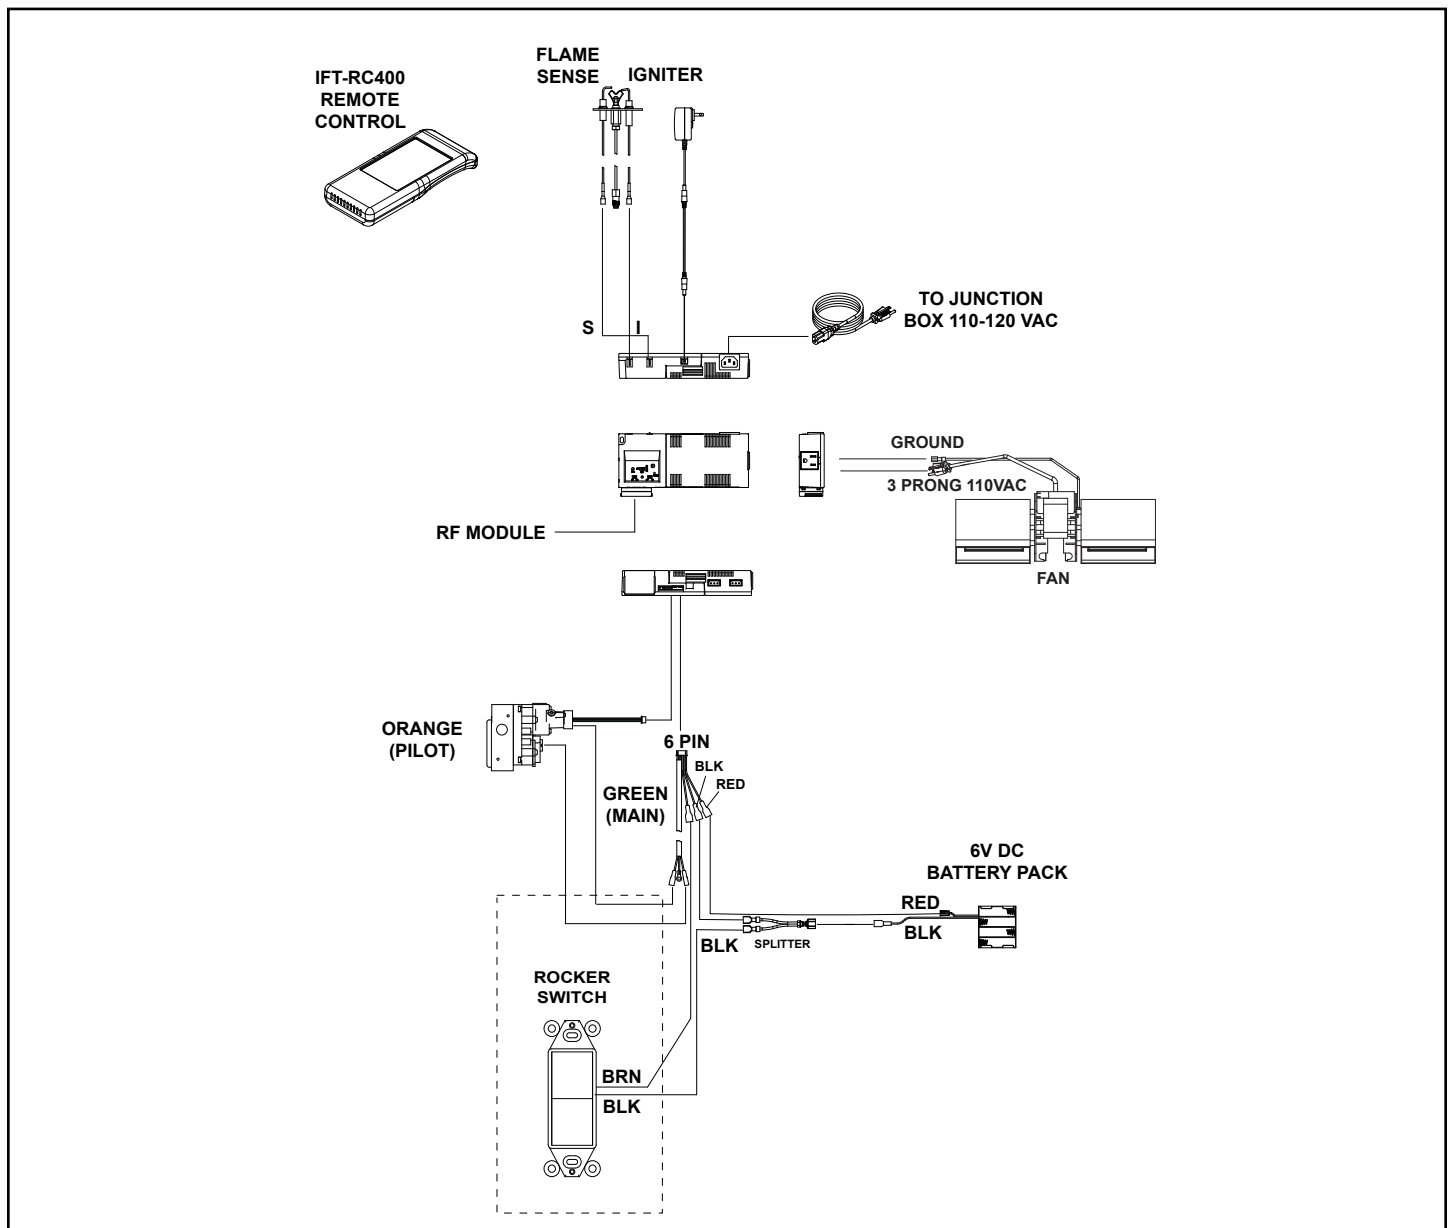

Figure 3.60 - INDVR-IFT Wiring Diagram
- Refer to Figure 3.60, IFT Wiring Diagram.